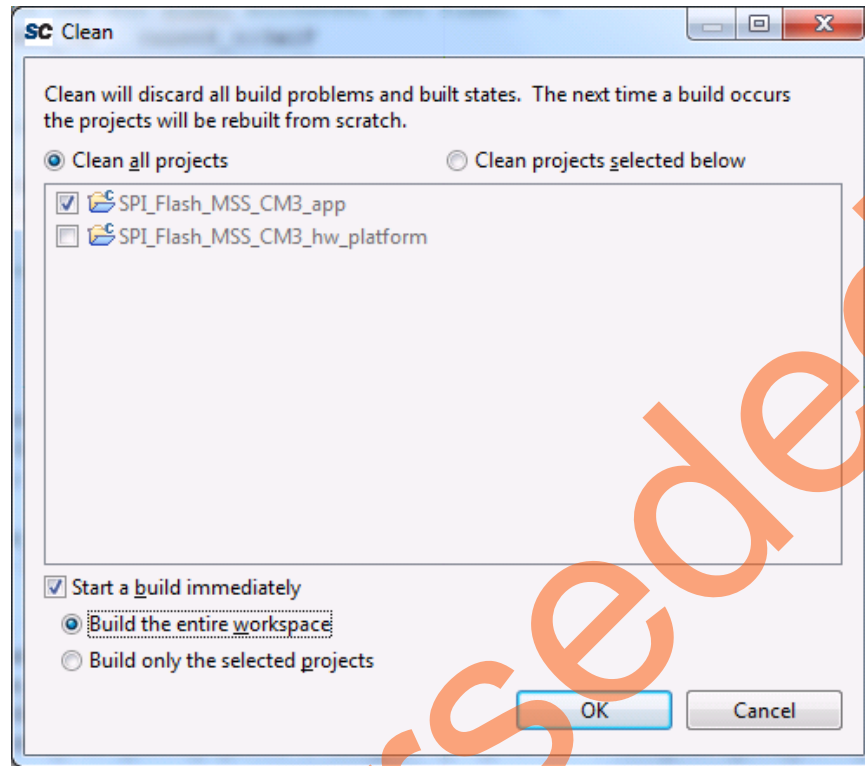

Figure 26 • Settings for a clean build
11. Perform a build by selecting **Project > Clean**. Leave the default settings in the **Clean** dialog box and click **OK**, as shown in Figure 26.